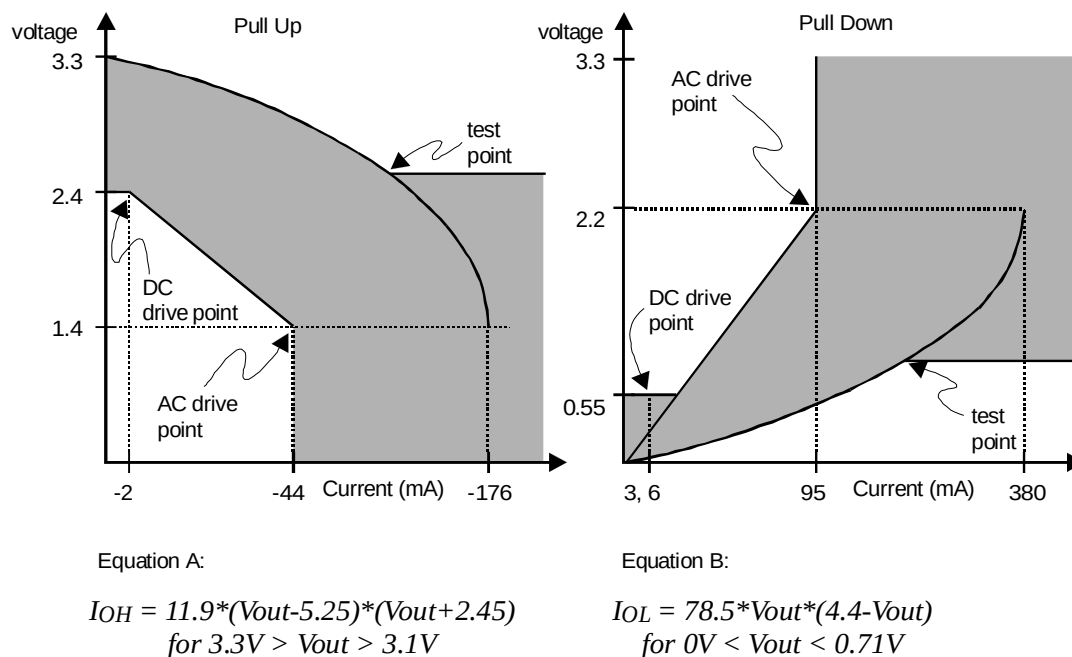

Figure 1. AC Characteristics
- Refer to V/I curves in Figure 1. Specification does not apply to PCICLK and RST# signals. Switching Current High specification does not apply to SERR# and INTA# which are open drain outputs.